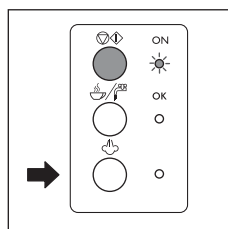

fig. 22
6. When the required temperature is reached, interrupt steam delivery by rotating the steam knob clockwise. Then press the steam button (fig. 22).